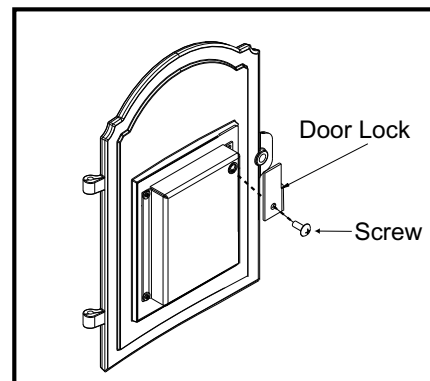

Figure 9D
2. Using a Phillips head screwdriver, remove the screw from the locking bracket. **Figure 9D.**